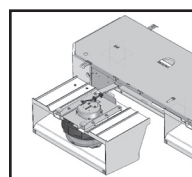

Figure 9.
4. With the cassette slightly removed, reach behind the cassette and unplug wired connection. This will separate the cassette from unit cooler. (Figure 9)